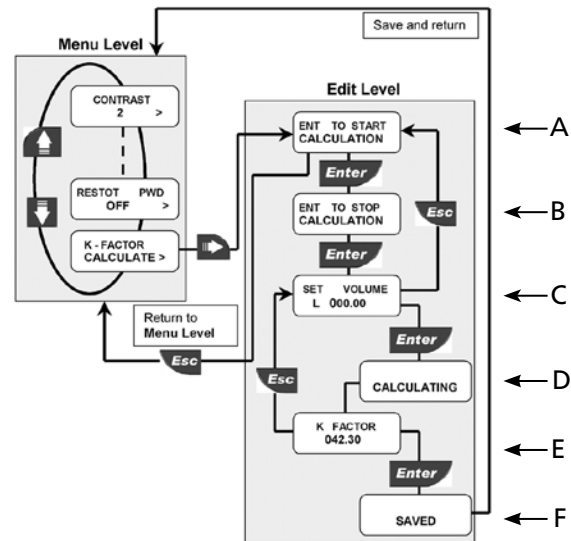

Figure 18 – K-Factor Calculate
1. Press ENTER to start calculation. Switch on a pump or open a valve. The flow meter starts counting pulses from the sensor (see Figure 18, A).
The flow meter stops counting pulses from the sensor (see Figure 18, B).
3. Enter the volume (in liter) of fluid filled into the tank (see Figure 18, C).
4. The flow meter is calculating the new K-Factor (see Figure 18, d).
5. Successful K-Factor calculation. Press ENTER to accept new K-Factor or ESC to return without saving (see Figure 18, E).